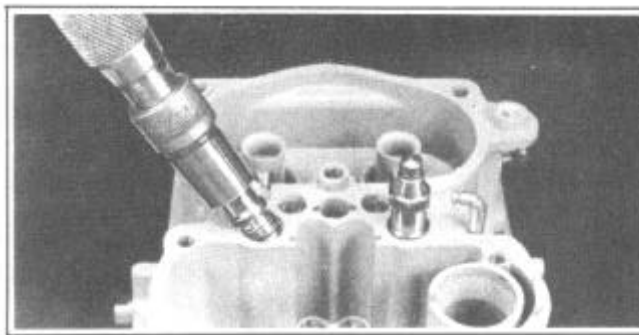

FIGURE 56
5. Remove anti-percolator valve assembly's, Figure 56.